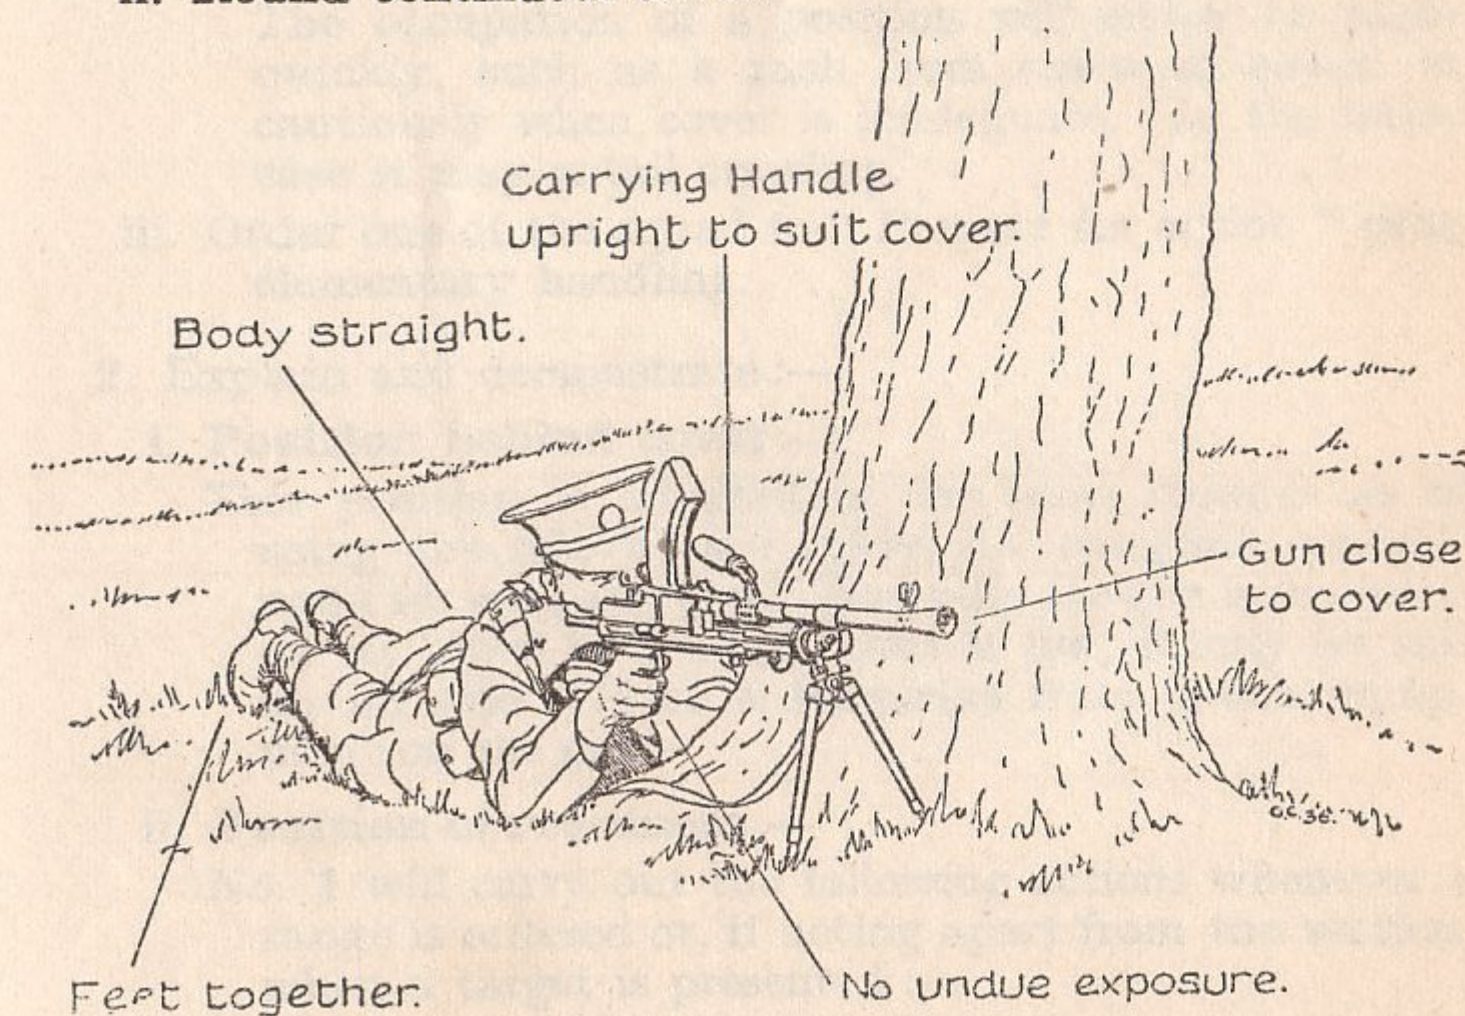

FIG. 20.—Isolated Cover.
- i. Round isolated cover (Fig. 20).